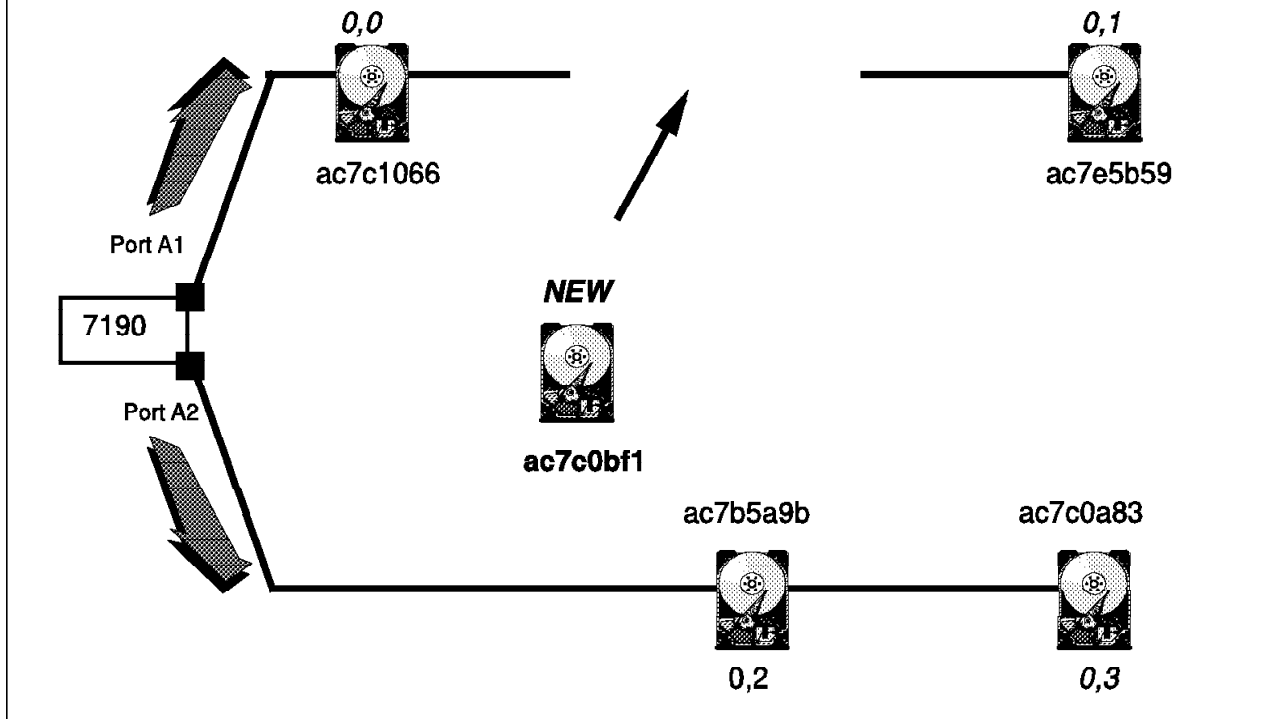

Figure 104. Inserting a Drive Between Nodes on a 7190 Model 100 String
2. Break the string in the chosen position. In our example, we have broken the string between **0,0** and **0,1** (Figure 104)